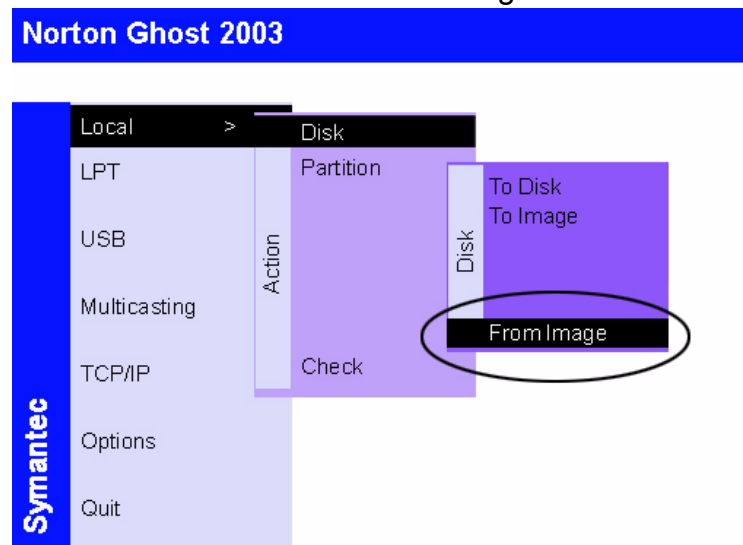

Figure 5-16. Choosing the desired Norton Ghost operation
3. The screen in **Figure 5-16** appears, at first without the sub-menu at the extreme right: